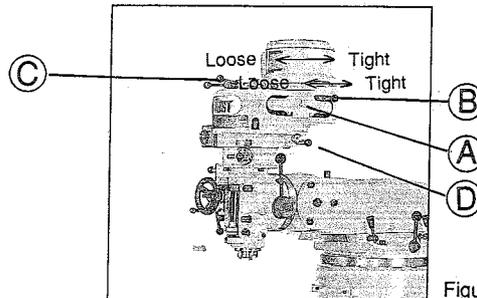

Figure 16
(1) Adjustment and change of Belt Pulley (Figure 16):
- a. Take off the side cover (A) of front belt pulley.
- b. Loosen the adjusting motor handle (B) as arrowed in the figure and move the motor forward to loosen the belt.
- d. Move the motor backward to regain the proper belt tension before the lever (B) is locked up tightly again.
(2) Change of High and Low Speeds: